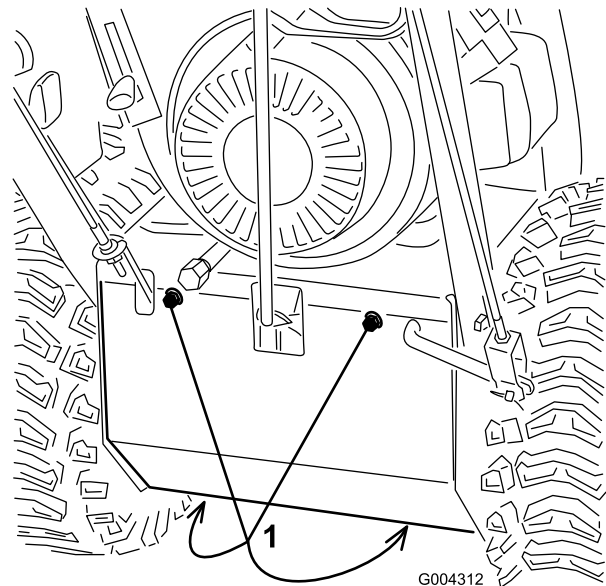

Figure 34
3. Remove the 4 flange-head bolts that secure the bottom cover to the frame and remove the cover (Figure 34).
3. Remove the 4 flange-head bolts that secure the bottom cover and remove the cover (Figure 34).
6. Remove the 4 flange-head bolts that secure the bottom cover to the frame and remove the cover (Figure 34).